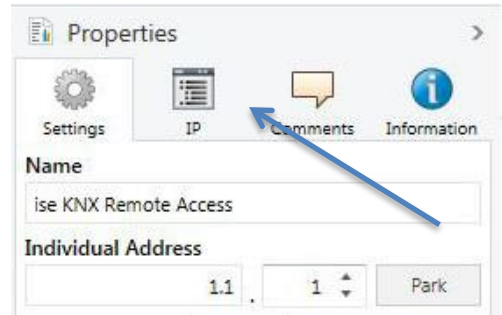

Figure 30: Device properties dialogue of the ETS
2. Display the device properties in the sidebar on the ETS as shown in Figure 30.